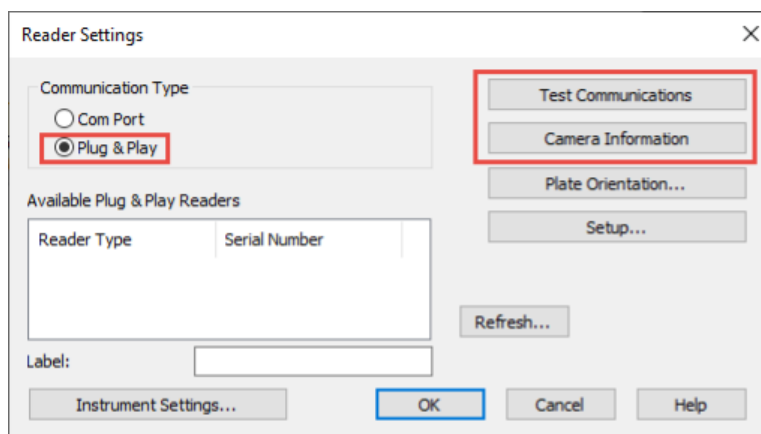

Figure 31. The **Reader Settings** dialog.
- 4 Using the **Reader Settings** dialog (Figure 31), select **Plug & Play** and then confirm the instrument is properly connected by clicking the **Test Communications** button. If working properly a success message will be displayed.
- 6 Choose **OK** to confirm the **Reader Settings** dialog (see **Figure 31**).